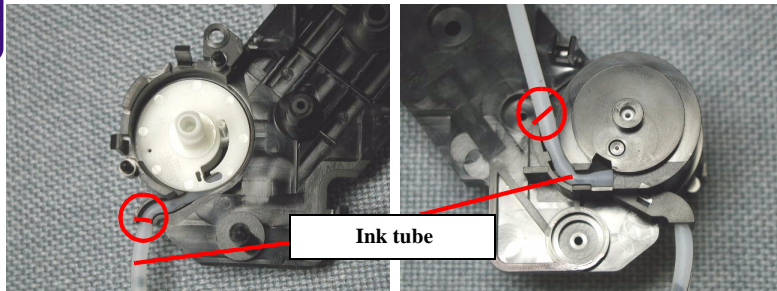

Figure 4-61. Marking position on the Ink tube
- Make sure to set the marking position of the ink tube to the suitable position of the Pump frame. (Refer to Figure 4-61)